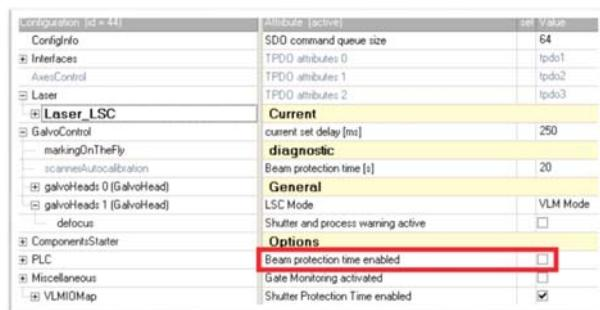

Figure 4.11 LaserConsole
4. Under "Options", check the activation of the beam protection time and deactivate the "Beam time protection enabled" value if necessary (see figure 4.11).